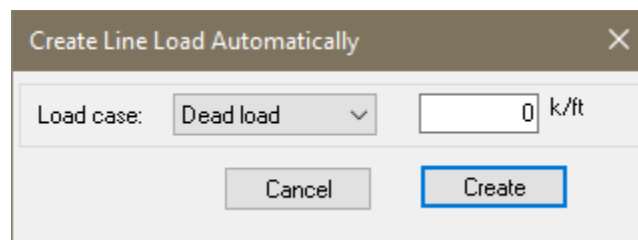

Figure 4-6
- Go to *Loading* → *General* and click on the *Line Load Wizard* icon. This should open the *Create Line Load Automatically* dialog window shown in **FIGURE 4-6**.